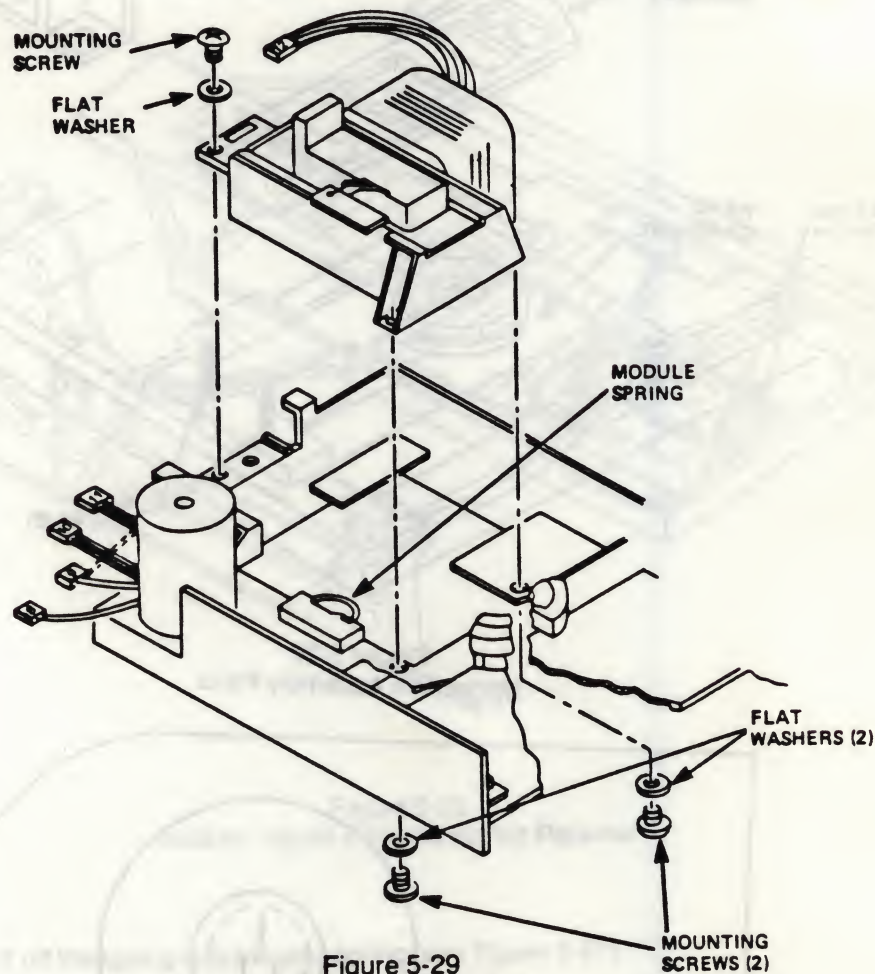

Figure 5-29
5.14.3 With a Phillips screwdriver, remove the three (3) mounting screws and their flat washers that attach the Module Assembly to the chassis (see Figure 5-29).